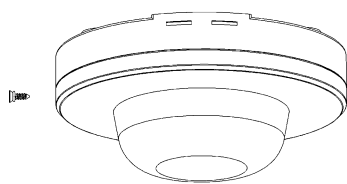

Figure 1
- Unscrew the screws on the side (Refer to figure 1);